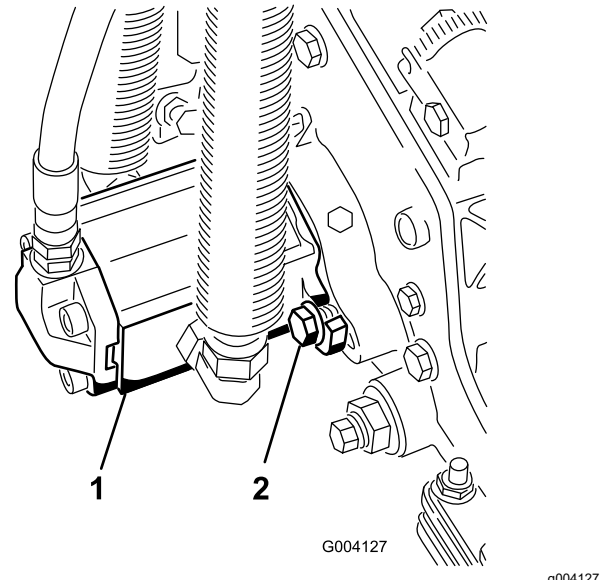

Figure 30
- Install the motor by rotating it clockwise so that the motor flanges clear the bolts (Figure 30).